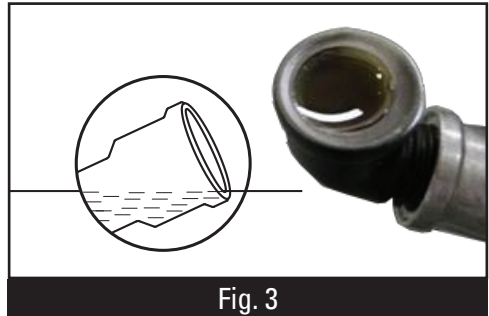

Fig. 3
- Check oil levels (see Fig. 3)